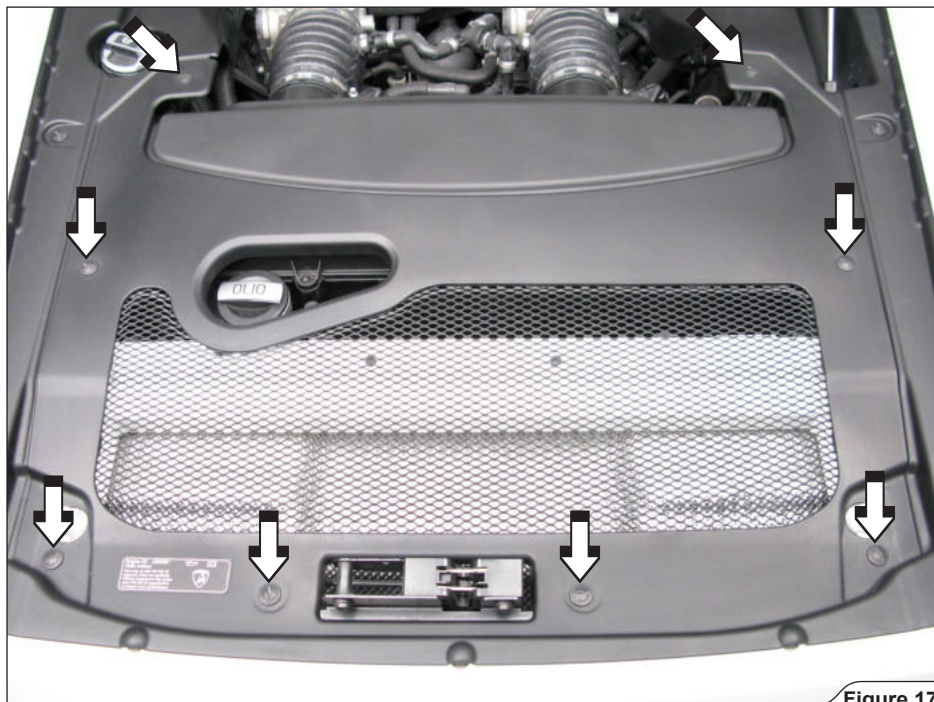

Figure 17
12. Undo the marked fasteners and remove the engine compartment panels (Figure 17, 18, 19).